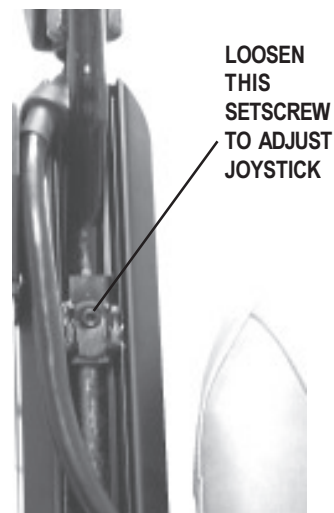

Figure 14. Underside of Armrest
1. Use a 3/16-in. hex wrench to loosen the setscrew. See figure 14.
3. Use a 3/16-in. hex key to loosen the setscrew. See figure 14.